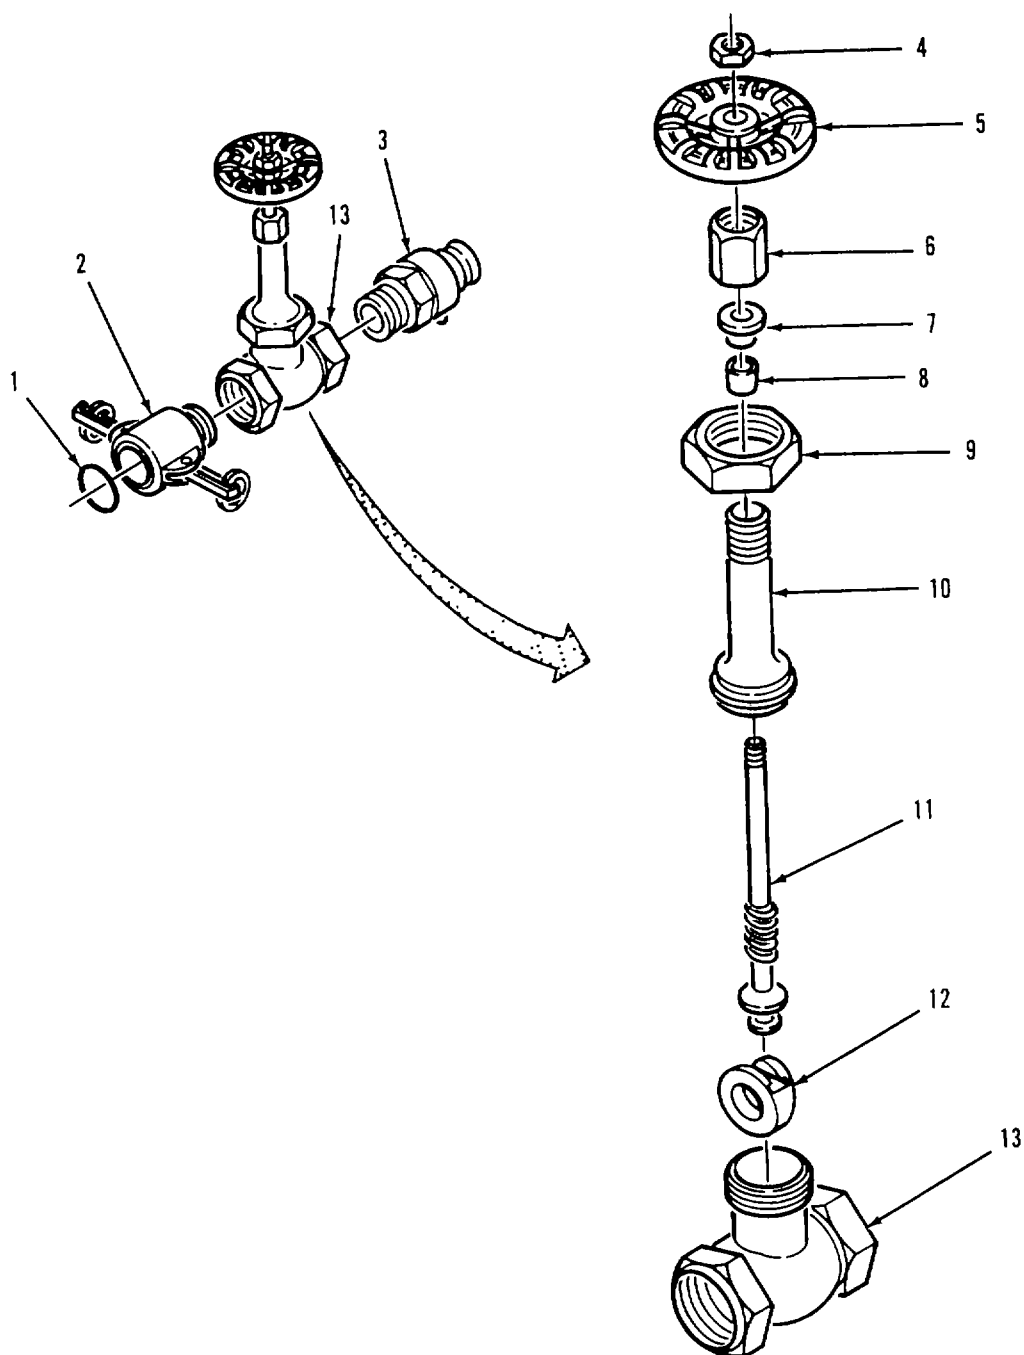

Figure 4-5. Gate Valve Assembly (2-inch) Repair
a. Disassembly. Refer to figure 4-5.
- (1) Clamp gate valve body (13) in vise.
- (2) Remove gasket (1) from female coupling (2).
- (3) Using pipe wrench, unscrew female coupling (2) from valve body (13).
- (4) Using pipe wrench, unscrew male coupling (3) from valve body (13).
- (5) Turn handwheel (5) fully clockwise to close valve.
- (6) Remove handwheel nut (4) and handwheel (5) from stem (11).
- (7) Using pipe wrench, remove bonnet ring (9) from valve body (13). Lift bonnet (10) and attached parts from valve body.
- (8) Slide disc (12) from end of stem (11).
- (9) Unscrew packing nut (6) from bonnet (10).
- (10) Remove packing gland (7) and packing (8) from bonnet (10).